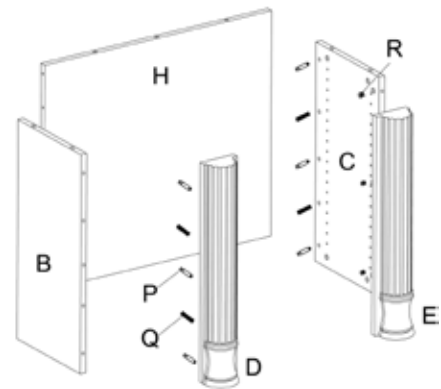

Figure 2
1. Place 4 WOOD DOWELS (Q) and screw 6 CAM DOWELS (P) into LEFT/RIGHT BOARD (B&C) as shown in Figure 2. Insert 6 CAM LOCKS (R) into the mating holes in the back of the BACK BOARD (H) with triangle arrow pointing towards the hole in the edge. Mate the BACK BOARD (H) with the WOOD DOWELS (Q) and CAM DOWELS (P) in LEFT/RIGHT BOTTOM BOARD (B&C) and twist CAM LOCKS (R) clockwise with a screwdriver to tighten side board to back board. Then place 4 WOOD DOWELS (Q) and screw 6 CAM DOWELS (P) into LEFT/RIGHT BOTTOM COLUMN (D&E). Insert 6 CAM LOCKS (R) into the mating holes in LEFT/RIGHT BOARD (B&C) with triangle arrow pointing towards the hole in the edge. Mate the LEFT/RIGHT BOTTOM COLUMN (D&E) with the WOOD DOWELS (Q) and CAM DOWELS (P) in LEFT/RIGHT BOARD (B&C) and twist CAM LOCKS (R) clockwise with a screwdriver to tighten side columns to side board.